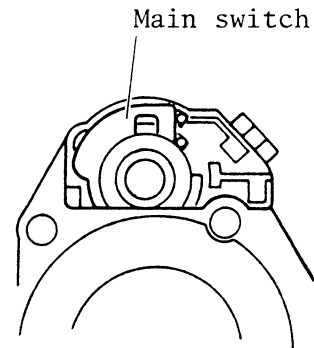

Fig. 7
3. Set the main change-over switch to "ON" position. (Fig. 7)